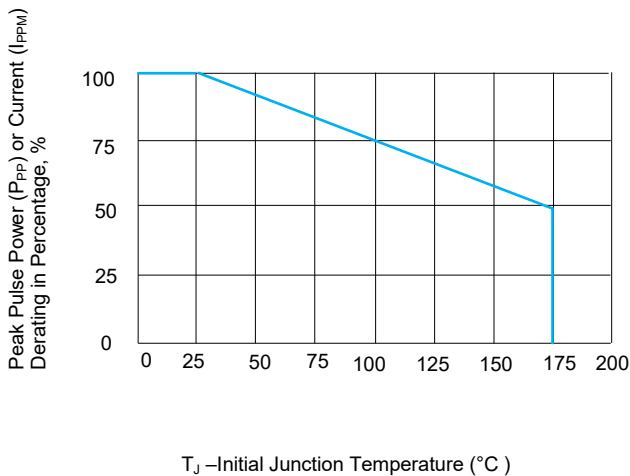

FIGURE 3 Peak Pulse Power Derating Curve
1. Non-repetitive current pulse, per Fig. 4 and derated above T_J (initial)= $25\text{ }^\circ\text{C}$ per Fig. 3.